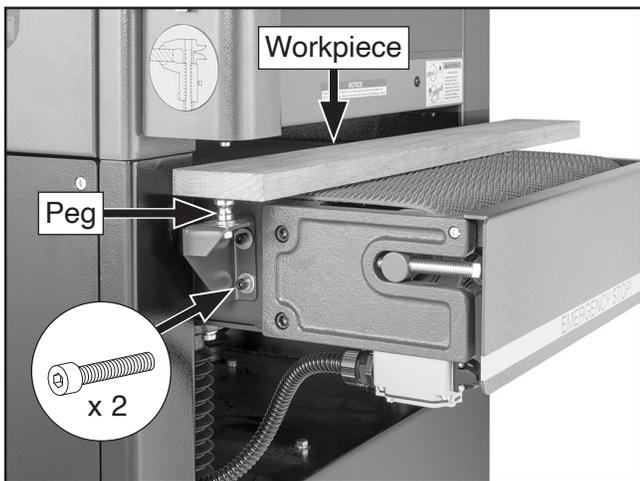

Figure 74. Workpiece resting on workpiece thickness peg.
1. Place workpiece across conveyor table so part of it rests over peg shown in **Figure 74**.
2. Loosen (2) cap screws shown in **Figure 74**, adjust peg so it touches workpiece without lifting any part of workpiece off of conveyor belt, then tighten cap screws to secure.